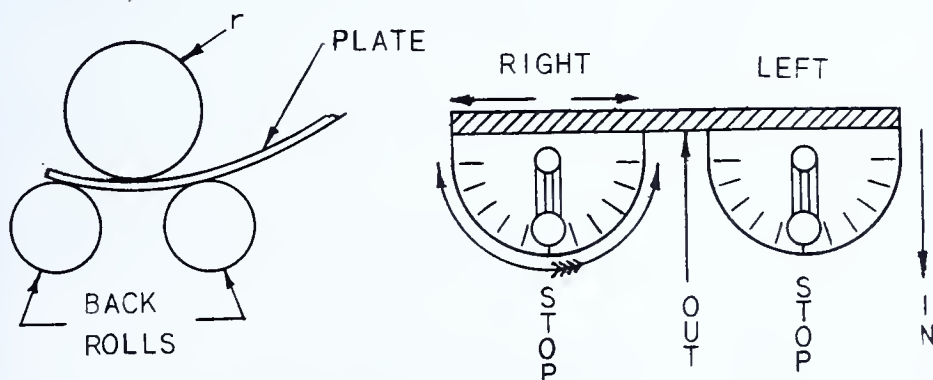

FIG. 204 — In-And-Out Roll and Control Boxes
The steel-plate flooring covers an area 50' long and 20' wide around the vertical rolls. The driving gears, motors, and other mechanisms are located in a covered pit under the steel floor. The only visible mechanism is that which operates the shaft which controls the movement of the in-and-out roll. The in-and-out roll is shown at *r* in Fig. 204. This roll must be adjusted in and out to regulate the amount of "set" as the plate is
passed back and forth between the three rolls as shown in Fig. 204.
To remove a cylinder from the rolls after it has been tack welded place the left control lever (Fig. 204) in the "out" position and adjust the feed roll (Fig. 204) until it is out far enough to allow the removal of the flush pin in the top feed screw.
6. Turn the right control handle to the "back" position and cause the plate to pass between the rolls until the edge of the plate rides the back roll as at *A* in Fig. 204.